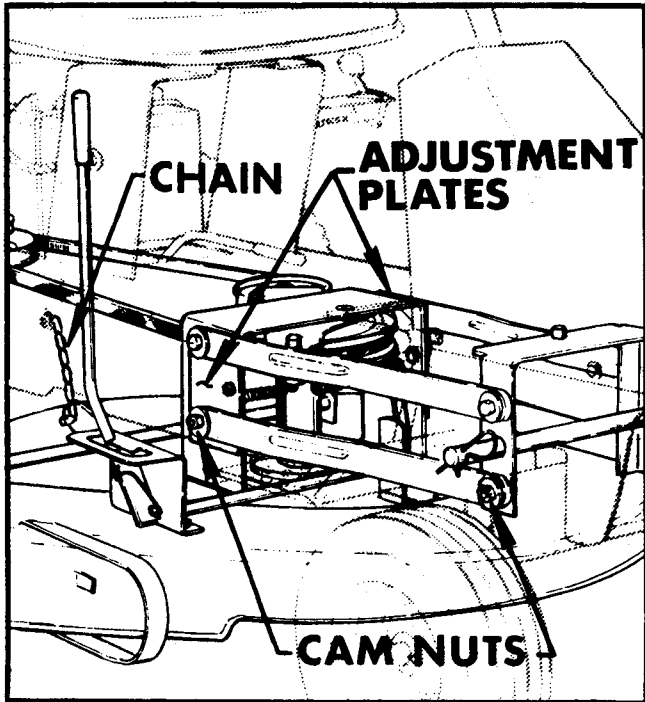

FIG. 28
For best cutting results the Blade should be  $\frac{1}{4}$  inch lower in the front than at the rear. The Cutter Housing height is adjusted from front to rear by rotating the Special Cam Nuts shown in FIG. 28.
Raise or lower the rear of the Cutter Housing through the slotted holes where the Cutter Housing Chains are attached to the sides of the frame. See FIG 28.
- Loosen the three screws on each side of the Adjustment Plates. See FIG. 28.
Loosen the three screws on each side of the Adjustment Plate. See FIG. 28 on Page 13.